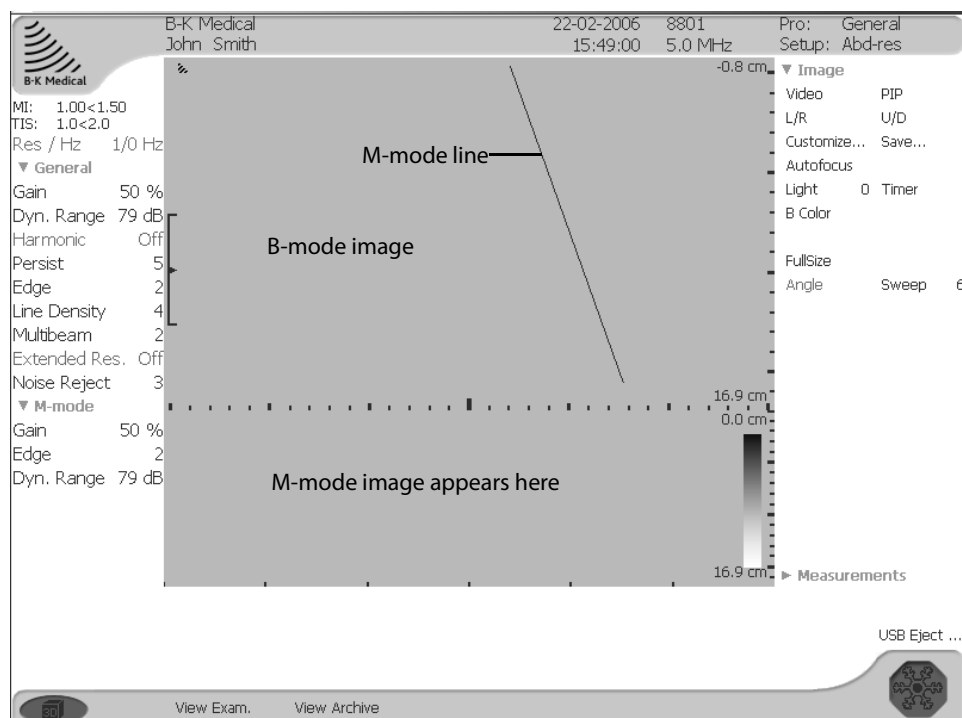

Figure 9-1. M-mode image.
When M-mode is selected, the monitor will be divided into two windows (see Fig 9-1). You can adjust how the two windows are displayed (See “Doppler and M-Mode Screen Layout” on page 200).
The M-mode line (see Fig 9-1) shows the path of the M-mode image in the B-mode window. You can adjust the path of the image by moving the M-mode line.
- Click the current imaging frequency (for example, **5.0 MHz** in Fig 9-1) in the Identification area of the monitor and select the value you want (or point at the frequency and press [**+/-**]).